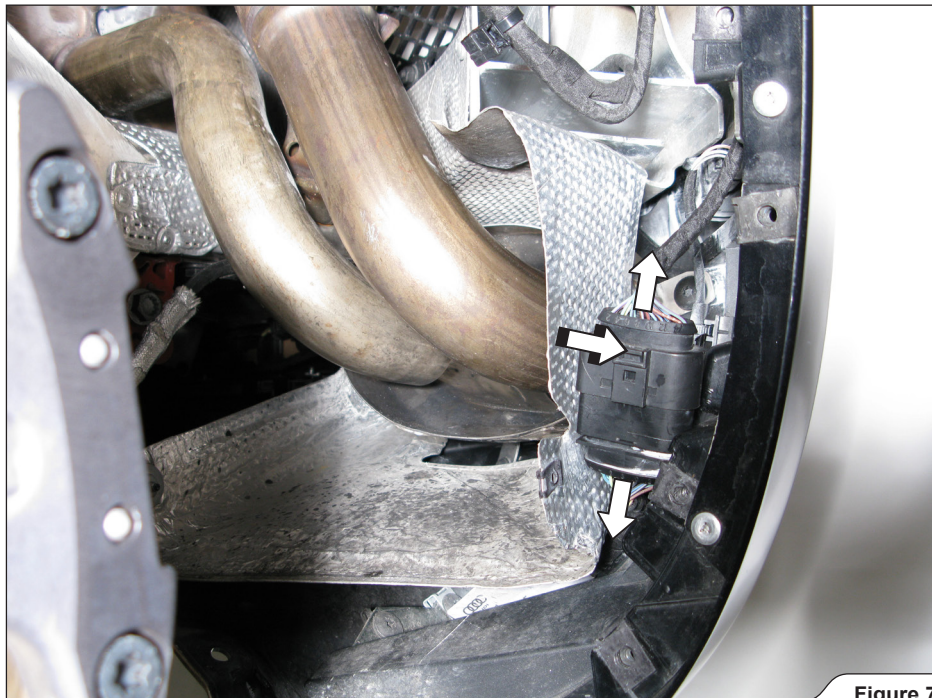

Figure 7
4. Disconnect the marked electrical connector on the left side of the vehicle (**Figure 7**).